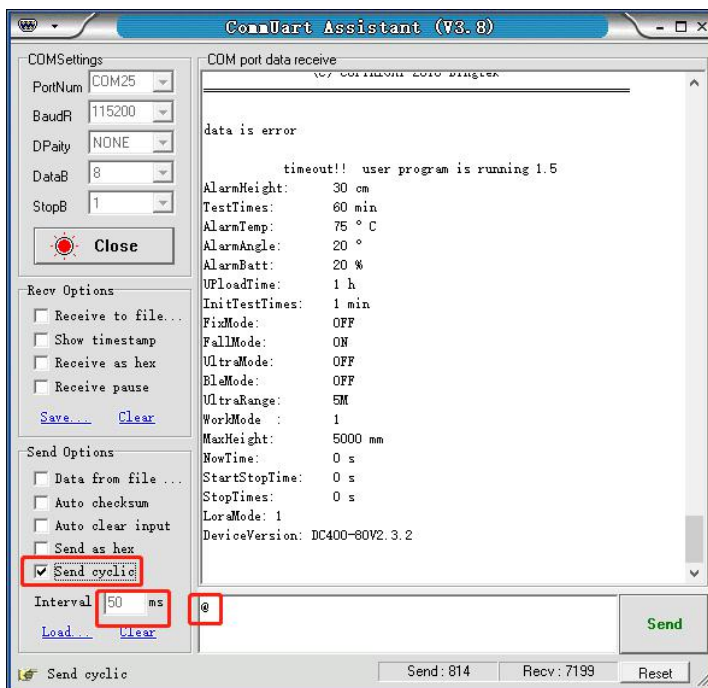

Figure 3.13 Cyclic send command @
- 1) Send command @; Input the command @ in the serial port and send @ cyclically at 50ms interval; as shown in Figure 3.13;